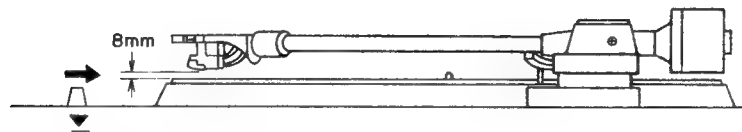

Fig. 11
- 3) Put a record on and set the elevation control to ▼. Adjust screw (a) until there is an 8 mm gap between the tip of the stylus and the surface of the record. (Refer to Figs. 11, 12.)